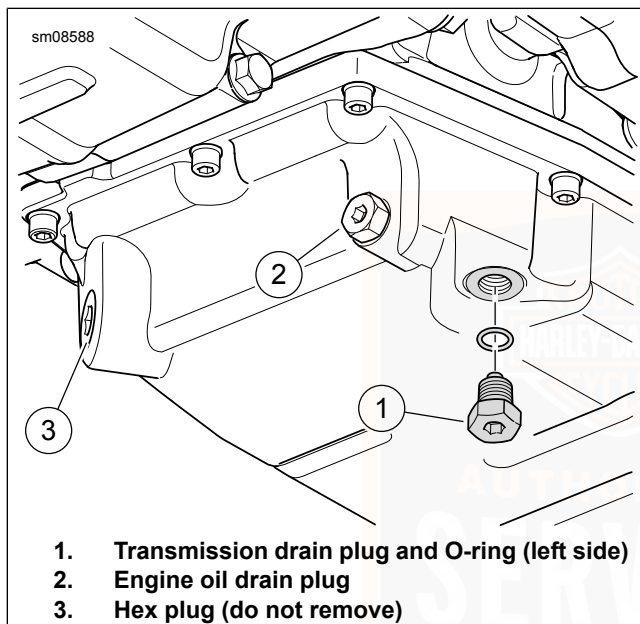

Figure 68. Transmission Drain
2. See Figure 68. Remove transmission drain plug. Drain transmission.